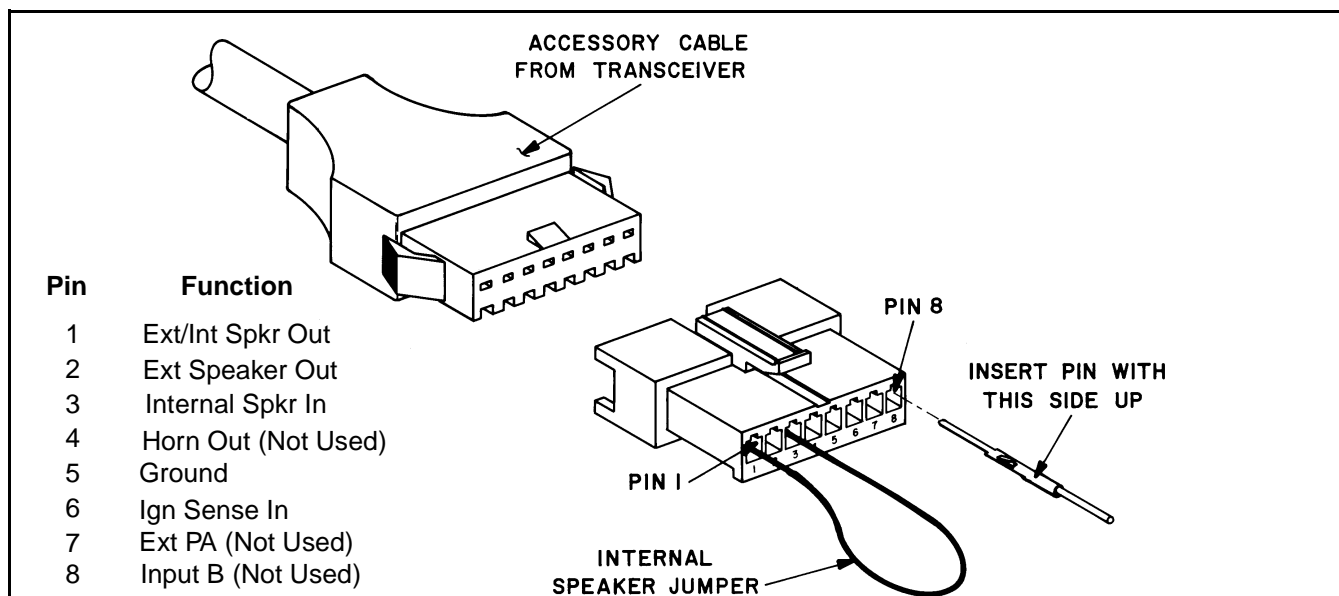

Figure 2-5 Accessory Jack
Two 8-pin connectors are included. One has a jumper installed from pin 1 to 3 for routing audio back into the internal speaker (see next Section 2.6) and the other does not have any wires installed. Also included are two 22-foot and three 2-foot wires with attached pins that can be used as required. Refer to Figure 2-5 and install this cable as described in the following information.
The horn alert is connected using one of the wires included in the accessory wire kit. Insert the pin of the wire assembly into the pin 4 slot of the connector as shown in Figure 2-5. Then connect the other end to the horn alert driver.
Front Mount Transceiver - Insert the plug with the jumper from pin 1 to 3 into the accessory jack (see Figure 2-5).
1. The external speaker is connected to pins 1 and 2 of the accessory connector shown in Figure 2-5 (the order is not important).